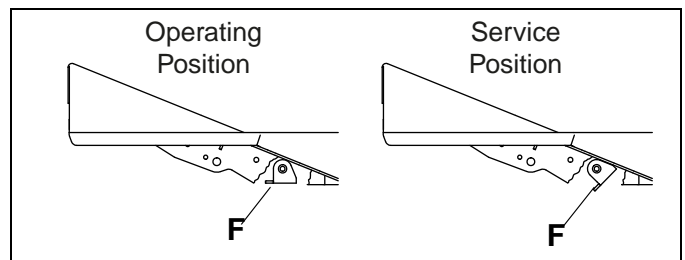

Figure 4C
1. Rotate anti-sway mechanism **(F)**, located under left side floor panel, to Service position. Figure 4C
4. Rotate anti-sway mechanism **(F)** to it's operating position. See **Figure 4C**.